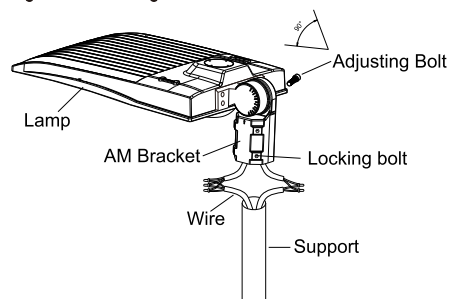

Figure 1
1.AJUSTABLE FITTER MoUNTING (AM)
Step 1:Loosen the four bolts on AM bracket, connect the wires correctly, and pull the wires into the poles.(Figure 1)
Notice: Adjustable angle is 0-90°(Figure 1)